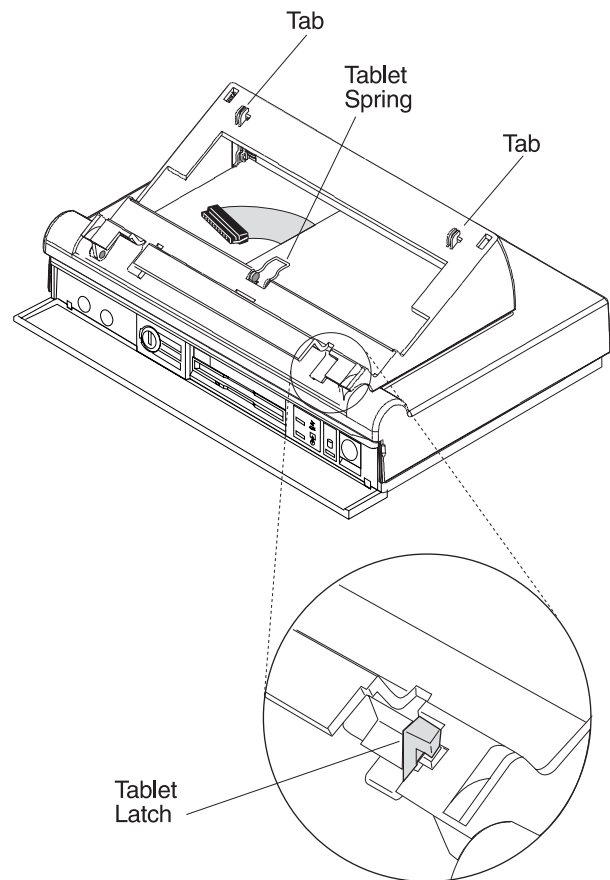

Figure 3-24. Replacing the Tablet
- 4 To exchange the tablet, make sure that the tablet latches are in the position shown in Figure 3-24.